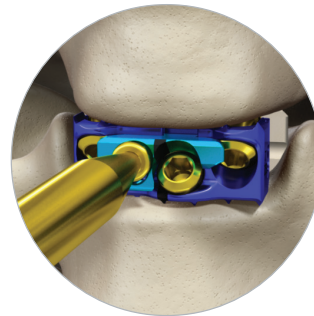

Figure 35
- Once all screws are fully seated within the plate, assemble the gold locking cap driver and torque limiting handle. Insert the locking cap driver into the gold locking screw. Ensure that the tip of the driver is fully seated in the screw pocket and that the driver is on axis to the locking screw (Figure 35).